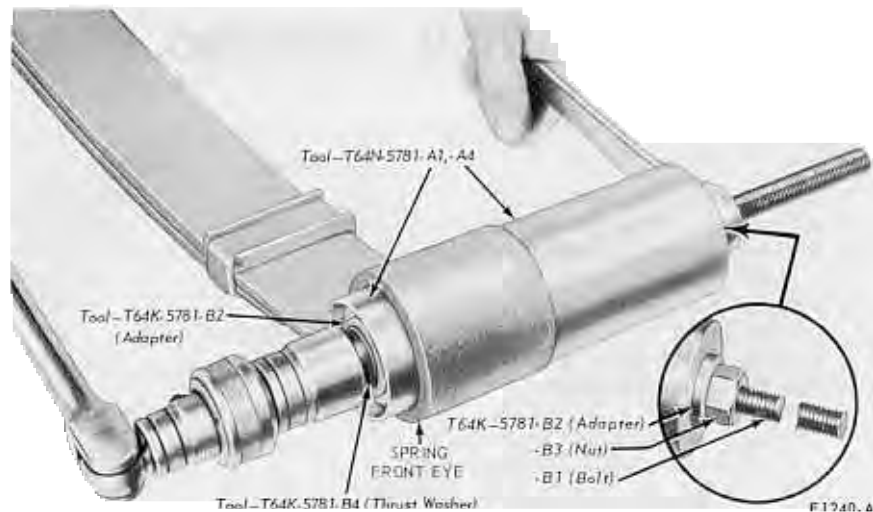

FIG. 19—Rear Spring Front Bushing Removal—Typical
7. If the front bushing is being replaced, assemble the special tool combination to the bushing in the spring front eye as shown in Fig. 19.